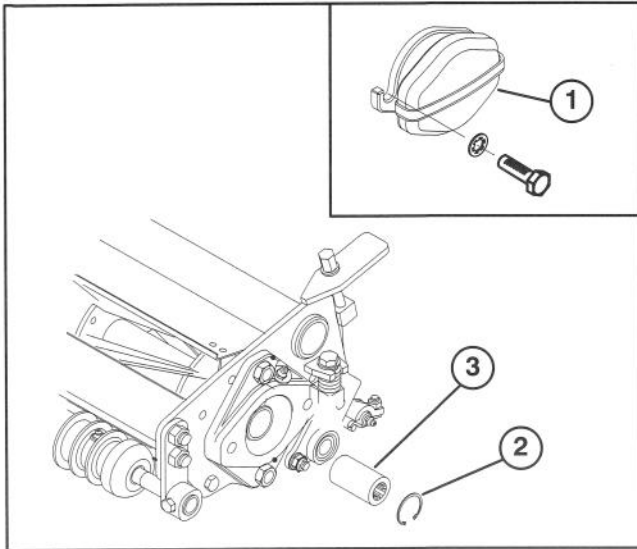

Figure 6
- A. Remove (2) capscrews and lockwashers securing counter weight to right end of cutting unit. Remove counter weight (Fig. 6, inset).